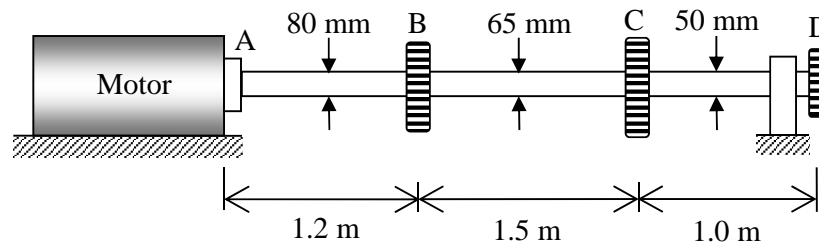

Figure 4 / Rajah 4
- [b] When an electrical motor as shown in **Figure 4** operates, it transmits 100 kW to the shaft at 15 Hz. The gears at B, C and D drive a machinery requiring power equal to 45 kW, 30 kW and 25 kW, respectively. Calculate the maximum shearing stress in the shaft and the angle of twist ϕ_{AD} between the motor at A and gear at D if: